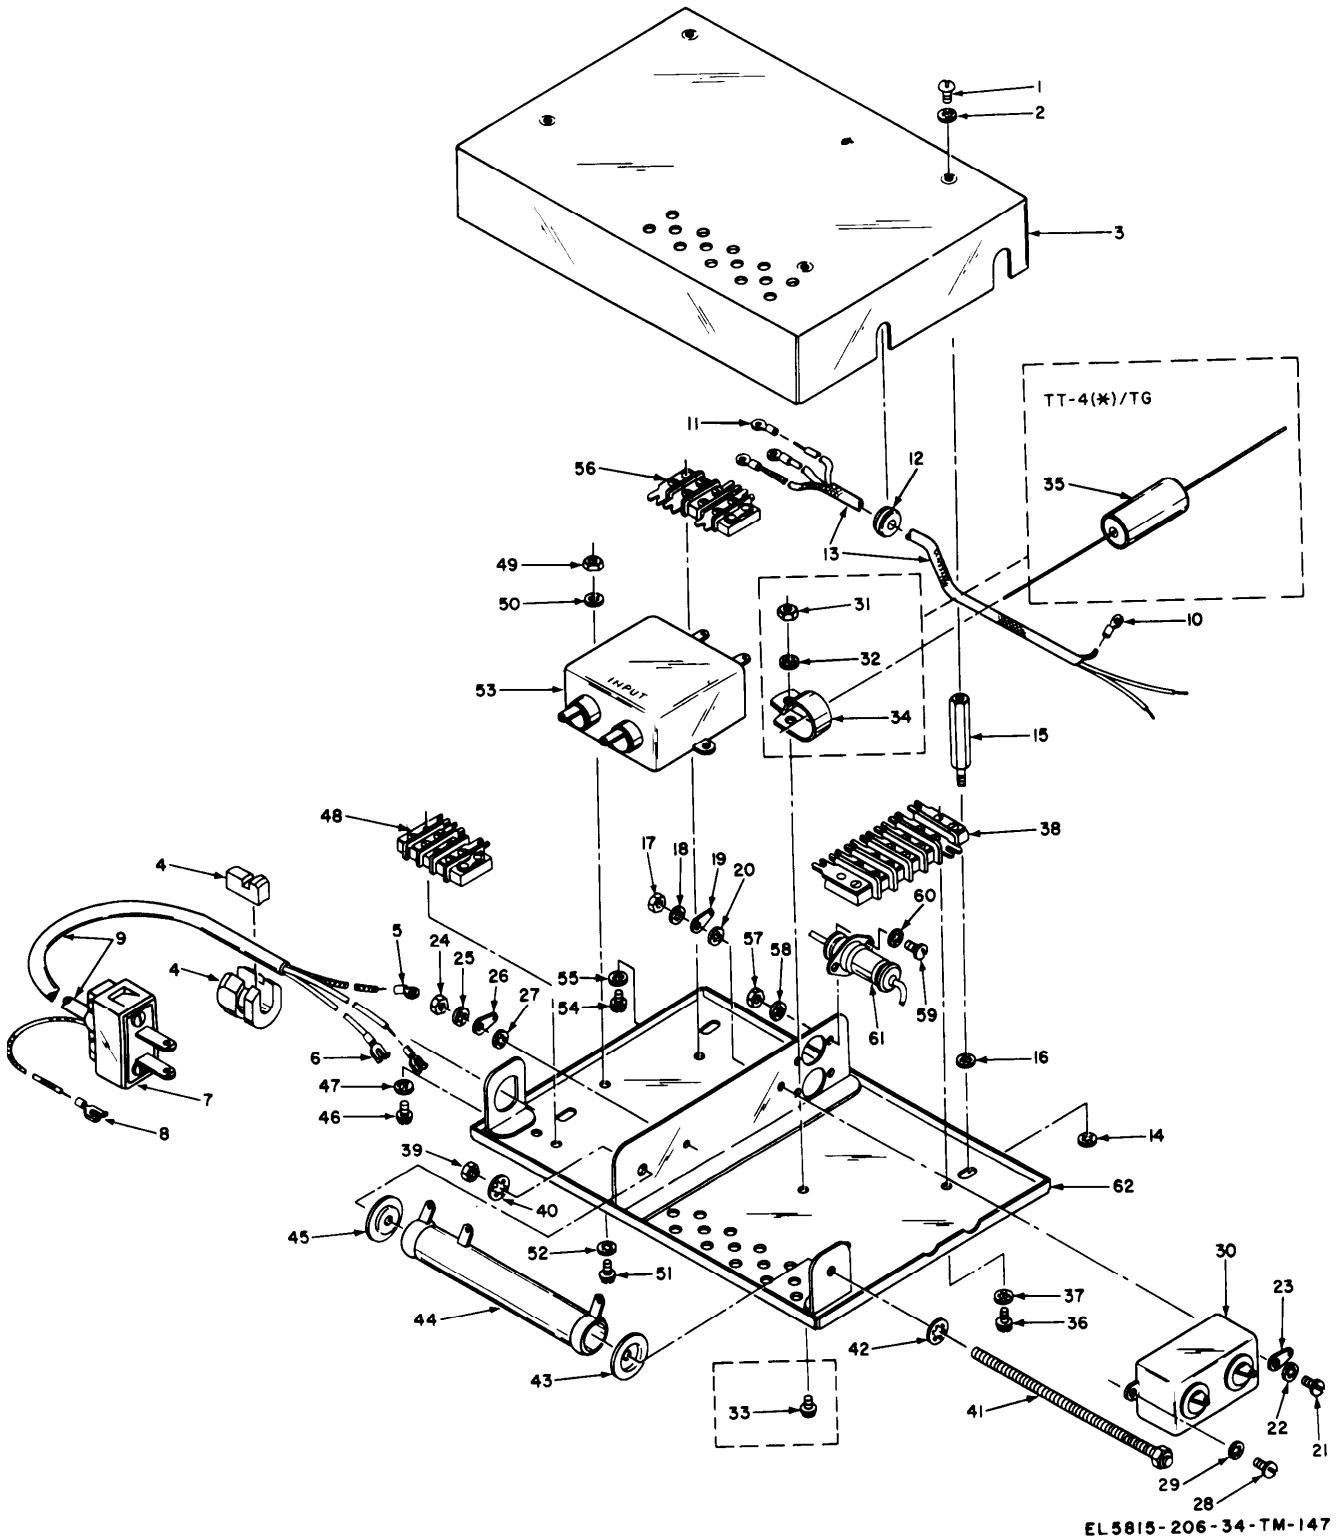

Figure 3-75. Motor filter box assembly (TT-4(\*)/TG and TT-698(\*)/TG), exploded view.
(fig. 3-75)
(1) Remove the teletypewriter from the mounting base (para 3-25a).
(2) Remove the four machine screws (1, fig. 3-75) and lockwashers that hold the filter box cover (3) to the mounting studs (15); remove the filter box cover,
(3) Disconnect the electrical leads of the motor power cable (9); from the terminal board TB2 (48); tag the leads to facilitate reassembly. Remove the strain relief (4) that holds the motor power cable to the filter box (62); remove the motor power cable.
(4) Disconnect the electrical leads of the motor-stop cable (13) and the motor cable from terminal board TB3 (38); tag the leads to facilitate reassembly.
(5) Remove the four mounting studs and lockwashers that hold the filter box (62) to the frame; remove the assembled filter box and electrical components, and remove the four lockwashers that are installed between the filter box and frame.
KEY to fig. 3-75:
(1) Replace the motor filter box assembly as indicated in figure 3-75; the replacement sequence is the reverse of the removal sequence.
(2) Reconnect all electrical leads that have been disconnected.
(3) Replace the teletypewriter on the mounting base (para 3-25b).